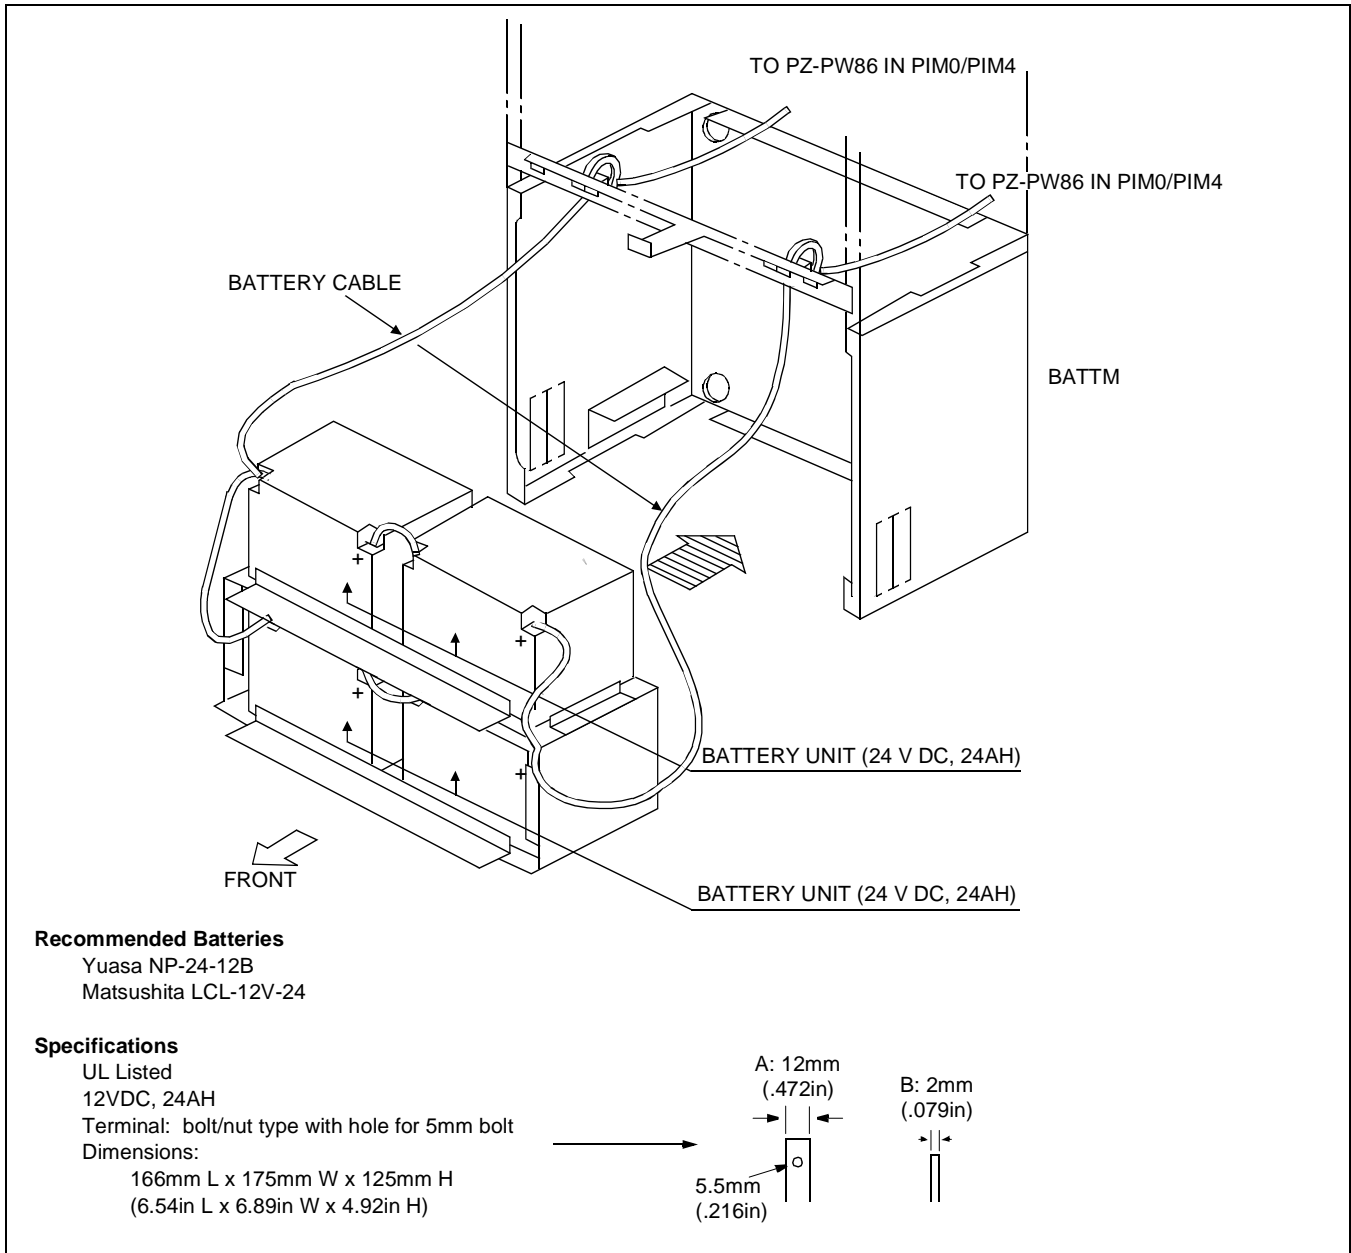

Figure 005-4 Battery Mounting into the BATTM
- Connect the battery cables to the batteries, and mount the battery units (24 V DC, 24AH per unit) into the Battery Module (BATTM) as shown in Figure 005-4.